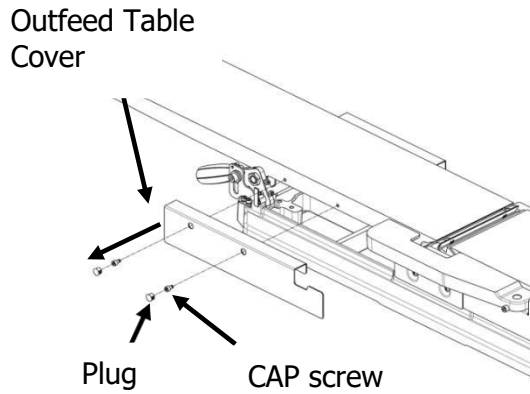

Fig. 44: Table Cover
STEP 2: Remove the plugs and loosen CAPscrews to release and remove outfeed tablecover as in **FIG. 44.**